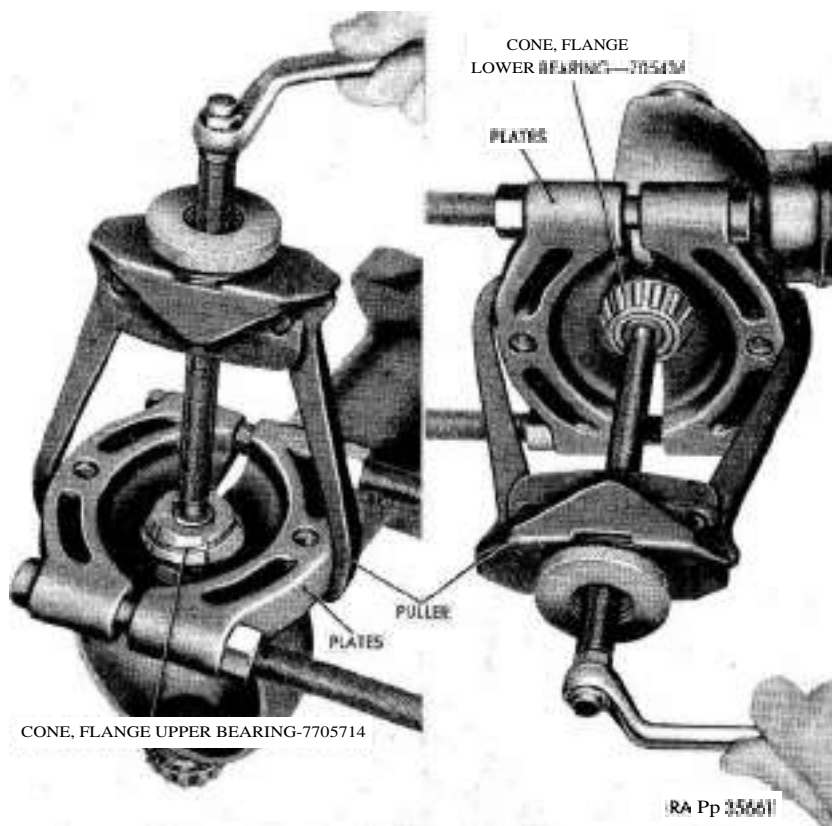

Figure 61. Removing upper and lower flange bearing cones with puller.
j. *Remove Flange Upper and Lower Bearing Cones.* If inspection (par. 78b (4)) reveals that replacement of flange upper and lower bearing cones is necessary, remove cones and plates with a puller (fig. 61).